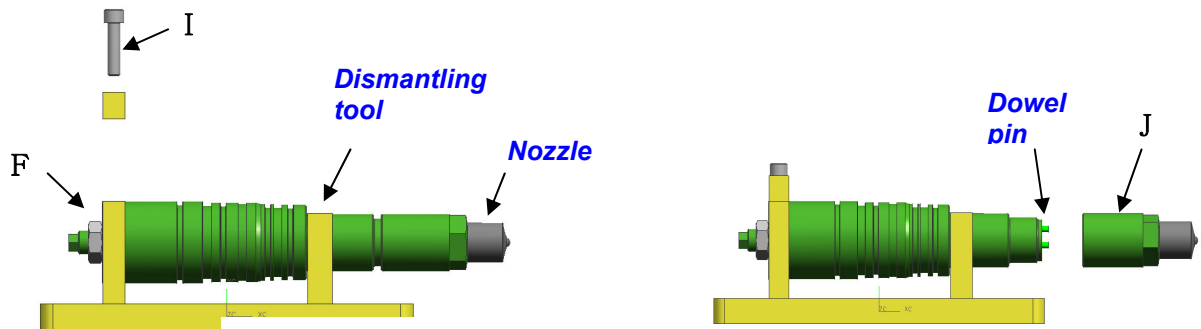
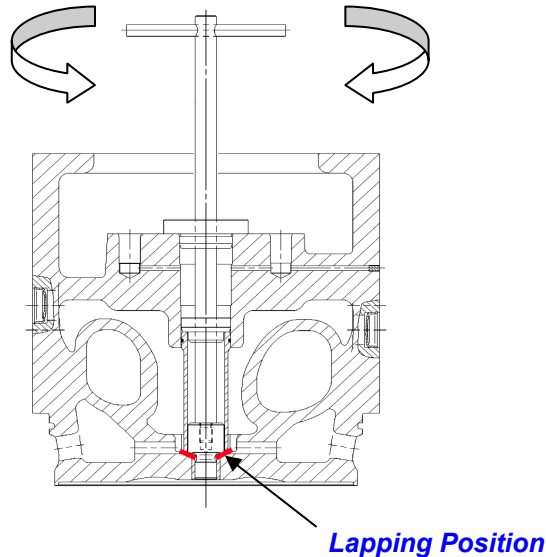
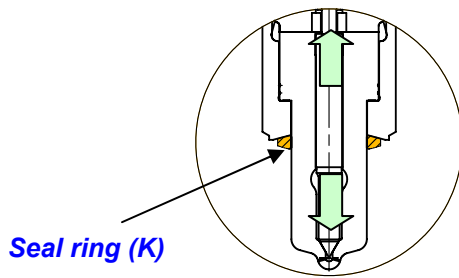

Fig.3 Dismantling of fuel valve nozzle(연료 분사 노즐 분해)
Fig.4 Position of The Fuel Injection Valve Lapping Tool
Fig. 5 Seal ring(실 링)
- Insert fuel valve on the tool as fig.3.
- Fix fuel valve with bolt (I).
- Remove the sealing gasket(K)(refer to fig.4)
- Loosen the nozzle nut(J) with a torque spanner.
2. Insert fuel valve on the tool as fig.3.
3. Fix fuel valve with bolt (I).
4. Loosen the locking nut (F).
7. Tighten the nozzle nut(J) with a torque spanner. (with SW32 Deep impact socket)(refer to fig.5)
8. Install seal ring(K) on nozzle(refer to fig.5)
As shown in Fig.4, after coating with small amount of a fine lapping compound on seating surface, rub the surface by rotating the lapping tool manually several times in order to remove carbon and clean the bush before mounting the fuel injection valve on the cylinder head.